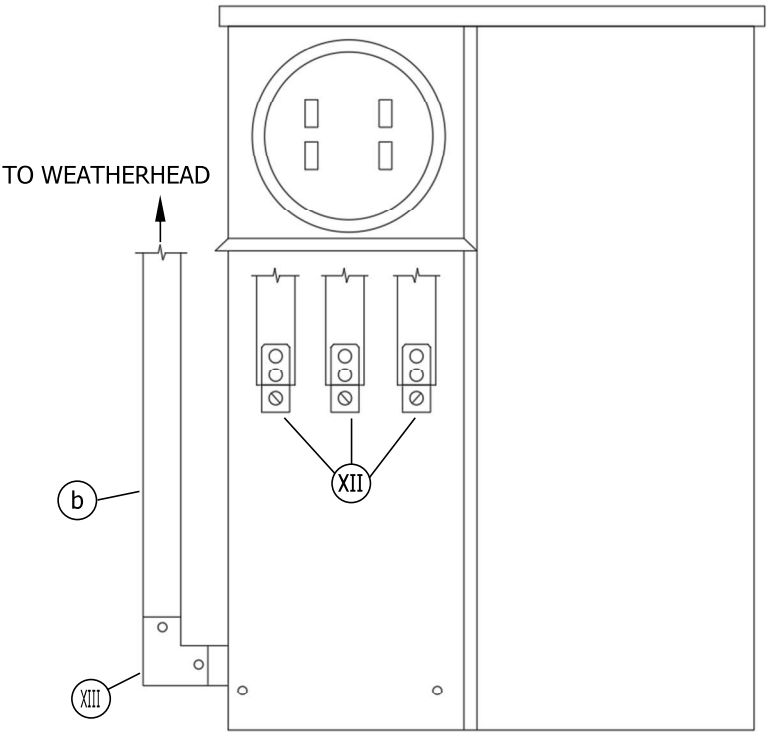

FIGURE 3
- (A) TERMINATIONS FOR SERVICE CONDUCTORS SHALL BE ALUMINUM-BODIED MECHANICAL LUGS WITH A RANGE OF 1 AWG THROUGH 600 KCMIL. THE LUGS SHALL BE SECURED TO ASSURE VERTICAL ALIGNMENT. A MINIMUM RADIAL CLEARANCE OF 1 1/2 INCHES SHALL BE PROVIDED BETWEEN HOT BUS TERMINALS AND GROUNDED SURFACES OR NEUTRAL BUS OR TERMINATION LUG. THE 1 1/2-INCH DIMENSION MAY BE LESS IF INSULATING MATERIAL IS PROVIDED.
- (B) WHEN AN OVERHEAD SERVICE DROP WILL SUPPLY POWER TO THIS EQUIPMENT, THE CUSTOMER'S SERVICE ENTRANCE CONDUCTORS MUST ENTER THE LOWER LEFT SIDE OF THE UNDERGROUND SERVICE SECTION AND CONNECT TO THE MECHANICAL LUGS. A CONDULET WILL BE REQUIRED AND SHALL BE VISIBLE AND SEALABLE. SEE FIGURE 3. (A)
- (C) THE INSTALLATION SHALL BE INSPECTED BY THE AHJ PRIOR TO THE UTILITY ENERGIZING THEIR SERVICE DROP CONDUCTORS AND INSTALLING THE METER. ONCE THE SERVICE IS ENERGIZED, THE PULL CAN COVER WILL BE SEALED BY THE UTILITY AND WILL NO LONGER BE ACCESSIBLE TO THE AHJ INSPECTOR.
- (D) FOR "FLUSH-MOUNTED" INSTALLATIONS, A SOLID ONE-PIECE RISER ACCEPTABLE TO THE UTILITY AND THE AHJ IS REQUIRED.